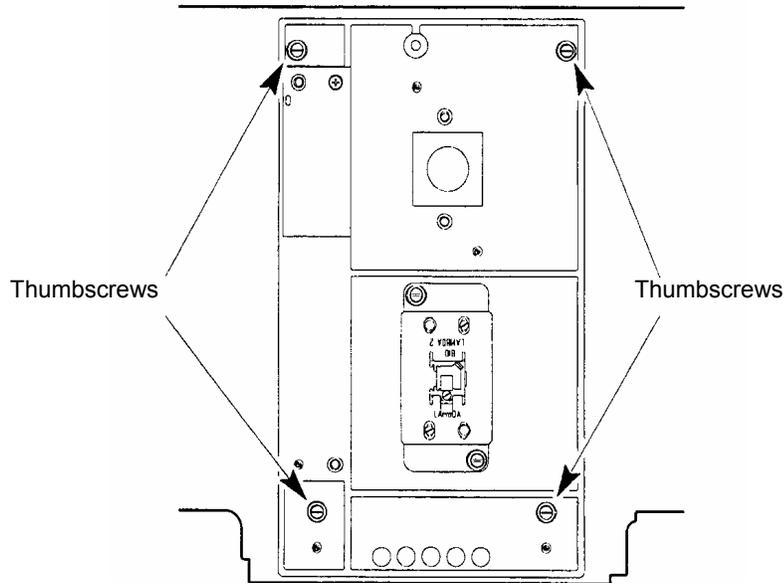

Figure 24 Four thumbscrews on the sample compartment baseplate
1. With the sample compartment cover open or removed, undo the four thumbscrews shown in Figure 24.